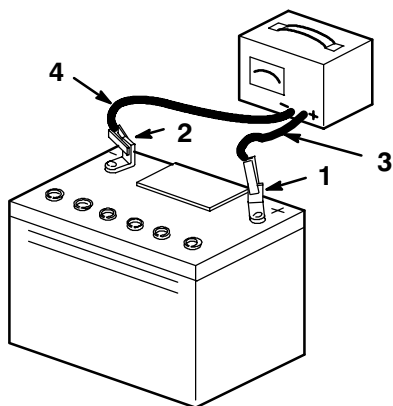

Figure 5
5. Charge the battery for 10 to 15 minutes at 25 to 30 amps or 30 minutes at 4-6 amps (Fig. 5). Do not overcharge the battery.
- When the battery is fully charged, unplug the charger from the electrical outlet, then disconnect the charger leads from the battery posts (Fig. 5).